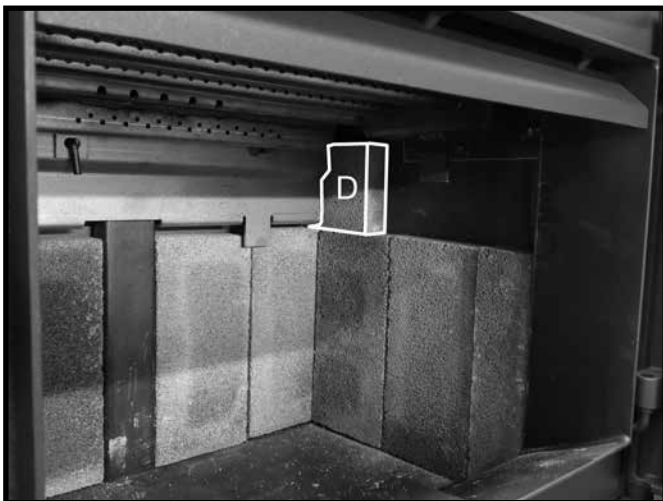

Figure 19: Small side wall firebrick in position.
3. Place a "D" firebrick on top of the previously placed "A" firebricks and slide this firebrick back toward the rear wall making sure that this firebrick tucks in behind the brick rail (Figure 19).